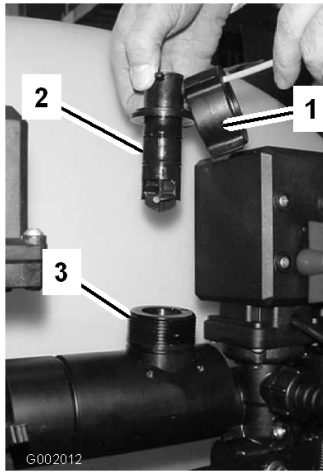

Figure 73
2. Remove the retaining cap from the flowmeter body (Figure 73).